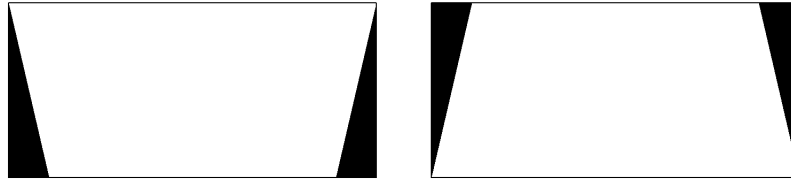

FIGURE 3-33 VERTICAL KEYSTONE
- Keystone is typically caused by tilting the projector in relation to the screen, so that the lens surface and screen are no longer parallel to each other. Vertical keystone is used to correct a keystoneed image shape in which the top and bottom borders of the image are unequal in length, and both sides of the image are inclined toward the top or bottom edge, see *Figure 3-33 Vertical Keystone*.